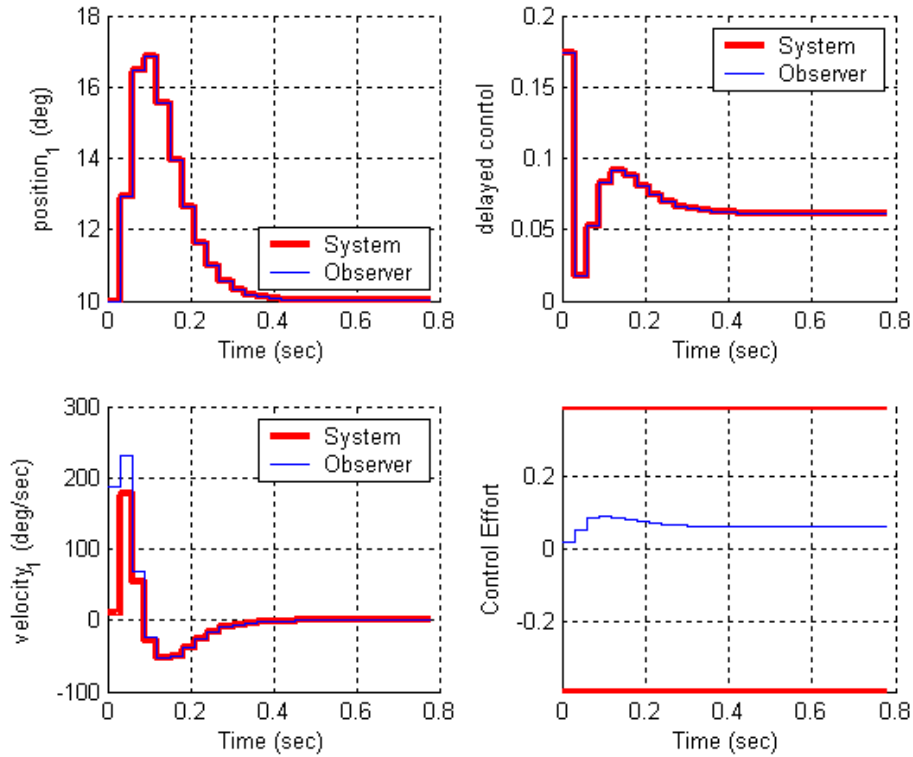

Figure 3. Results for problem **1d**.
d) Now assume the same conditions as **c**, but with a sampling interval of 0.03 seconds. For a 10 degree step input you should get the graph shown in Figure 3. Turn in your plot.